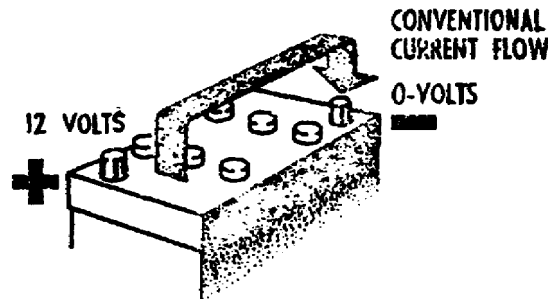

Figure 2. Conventional-current flow.
d. Polarity is another important concept. One post of a battery is said to be positive and the other negative. By conventional theory the direction of current flow in a circuit is from the battery or generator positive terminal, through the external circuit, and then back to the negative terminal of the battery or generator. This direction is opposite to the direction of electron flow. Electron flow is generally used to explain electronic circuitry. Conventional current flow is used to explain magnetic properties in motors and generators (fig 2).